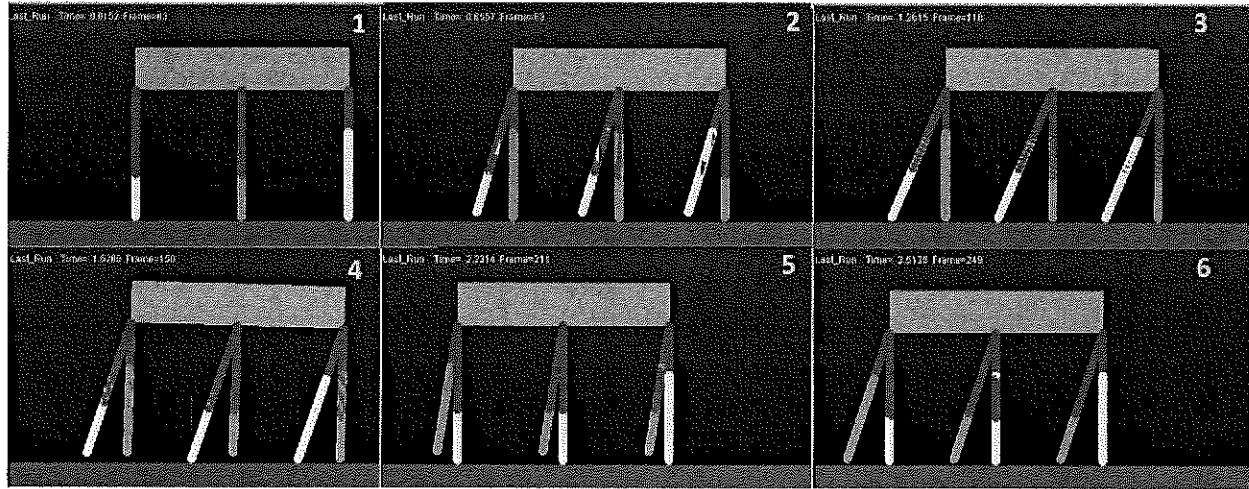

Figure 3 Side-view Snapshots in Time of the Six-Legged Robot Walking
The robot's is designed to propel itself in the following manner and is shown in Figure 3. From the initial position in the snapshot (1) to snapshot (3), "A" legs (white) first rotates forward to about 20° and extend via its prismatic joint to touch the ground. A rotation force which can be supplied by a motor is applied to all "A" legs' revolute joints and propels the robot forward as seen in snapshots (4) to (5). While doing so, the "A" legs simultaneously retract back to its original length. "B" legs (green) remain rigid and vertical as a stand to support the robot body until the "A" legs have returned to its vertical position. Once so, "B" legs rotate forward to 20° and extend via its prismatic joint to touch the ground, and repeats in the same process as "A". When "A" and "B" takes turn moving in this fashion, the robot travels forward.